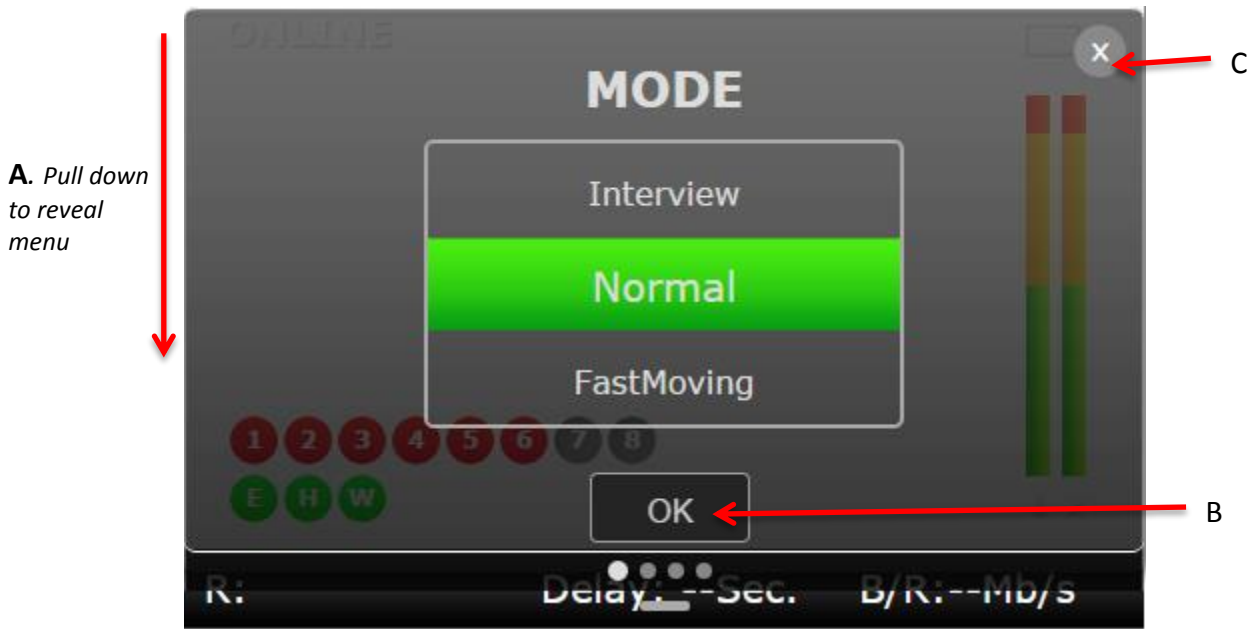

Figure 10
To select a preset transmission mode, users can pull down the drop down menu by sliding their finger from the top of the screen to the bottom (A). The "Modes" interface will be displayed (Figure 10). Users can choose between these preset transmission modes: